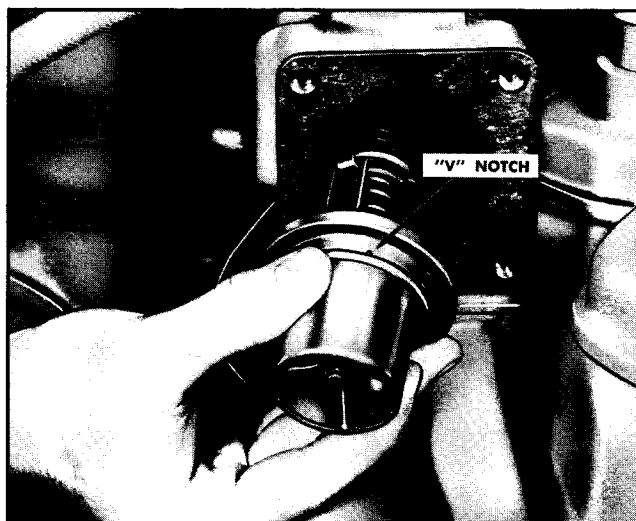

Fig. 4-4. Thermostat installation
1. Install new or tested thermostat as shown in Fig. 4-4., using new gasket. If a turbocharged engine, use new rubber O-ring on water by-pass coupling.